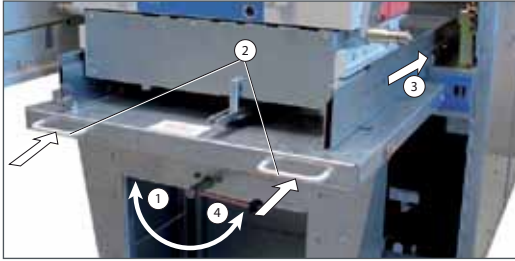

Fig. 4.12
- Turn lever to the left (Fig. 4.12, 1). The trolley is lifted on the front.
- Approach trolley to the panel via the handles (2) so that the lateral guides (3) are close to the panel, and turn lever back to the right (4). The trolley is locked on the panel.